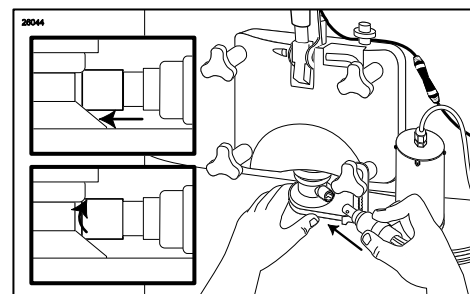

Figure 138
8. Fully insert the 9-Tube Assembly into the Injector Head syrup line opening and rotate it until motion stops to secure. (See Figure 138.)